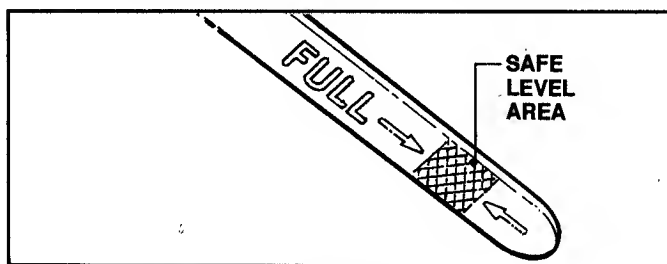

FIGURE 2.1
- C. Check engine oil and add oil as needed to bring level up to the full mark. Refer to engine owner's manual for oil specifications. See Figure 2.1.